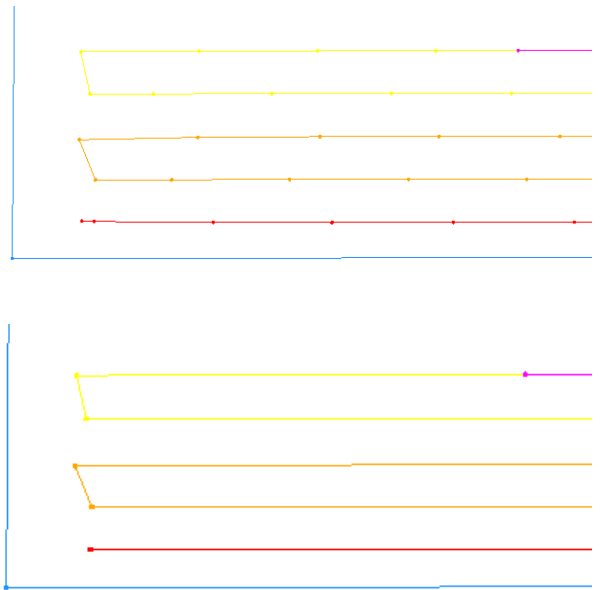

FIGURE 13 DIFFERENCE DUE TO DOUGLAS-PEUCKER REDUCTION
*Douglas-Peucker Reduction allows the number of points in the map view to be reduced considerably. This function removes redundant points from a line. For example, a straight line consisting of 100 points will give the same result as a straight line consisting of 2 points (Figure 13). This reduction particularly impacts the export of Crop Registration data to Google Earth.*